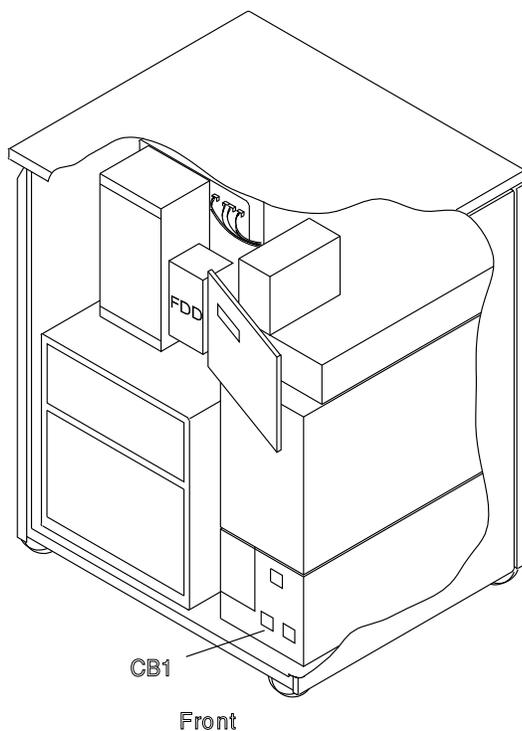

Figure 4-70. FDD and CB1 Location
Removal Procedure: For physical locations, refer to Figure 4-70.
- 3) **Switch CB1 OFF.** Refer to Figure 4-70 on page 4-52.